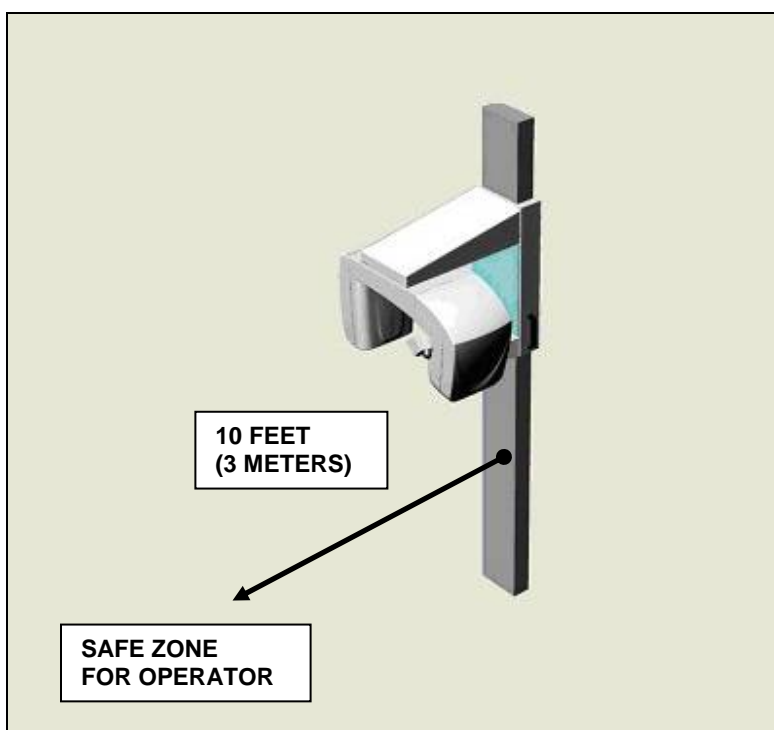

Figure 14. Operator Safety Zone
- Behind the patient, 10 feet (3 meters) from the column (in the designated safe zone, as described in **Figure 14**), or